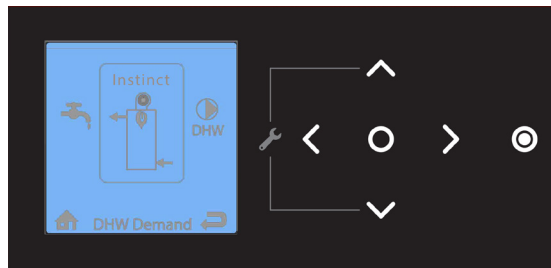

Fig. 5: CTRLMax Navigation Control
- Enter the propane (LP) appliance code from the propane rating label supplied in the conversion kit:
- Press and hold the UP and DOWN buttons together see Fig. 5.
1. Touch simultaneously on the up and down soft keys for 3 seconds to access the functions for the installer. See Fig. 5.